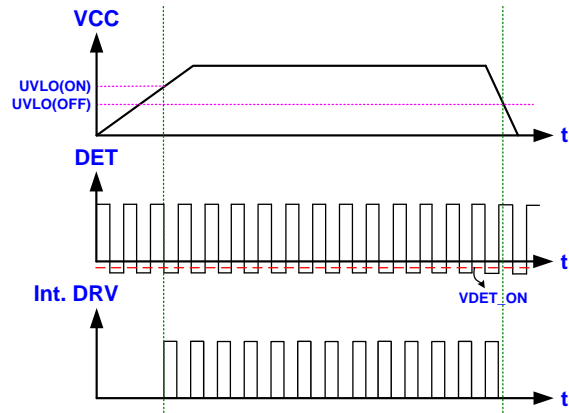

Fig. 11
An UVLO comparator is implemented to detect the voltage on the VCC pin. It will assure the supply voltage enough to turn on the LD8926AA1 controllers and further to drive the synchronous rectifier. As shown in Fig. 11, the UVLO(ON) and UVLO(OFF) are 3V and 2.8V respectively.